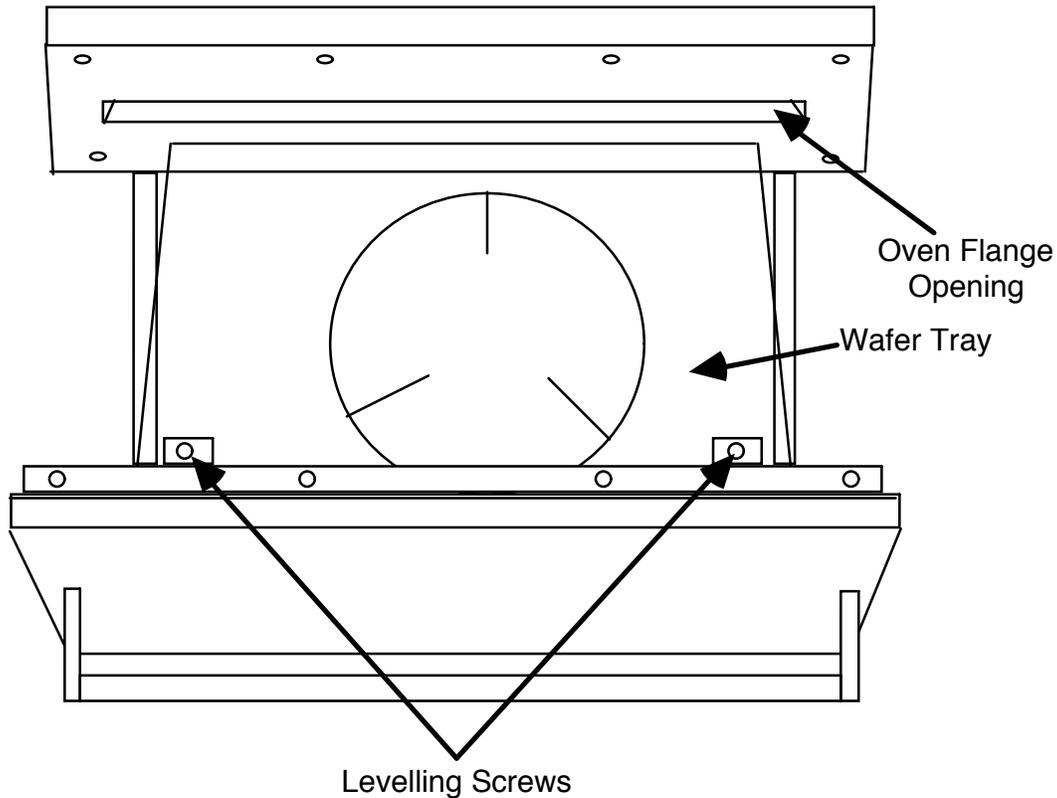

Figure 10-9: *Leveling Screw Locations (Top View)*
- Step 3.** If the tray is level from side-to-side, go to the next step. If the tray is not level side-to-side, then adjust the tray using the leveling screws. The level of the tray should be adjusted so that the end of the tray is centered with the opening in the oven flange. See Figure 10-9 for location of oven leveling screws. Once the tray has been leveled from side-to-side, note the distance from the bottom of the oven flange to the top edge of the wafer tray.